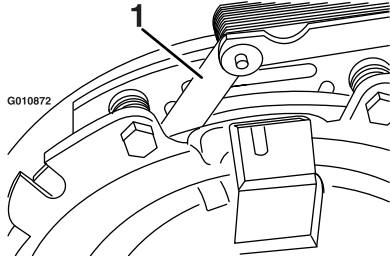
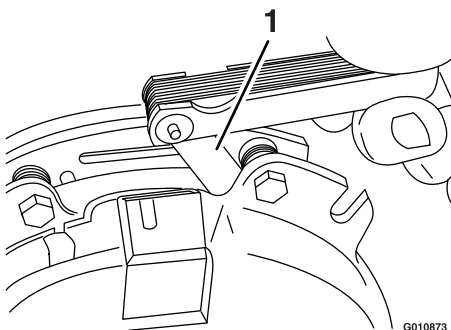

Figure 68
Figure 69
- E. Using a 0.25 mm (0.01 inch) thick feeler gauge, verify that a gap is present between the rotor and the armature face on both sides of the brake pole as shown in Figure 68 and Figure 69.